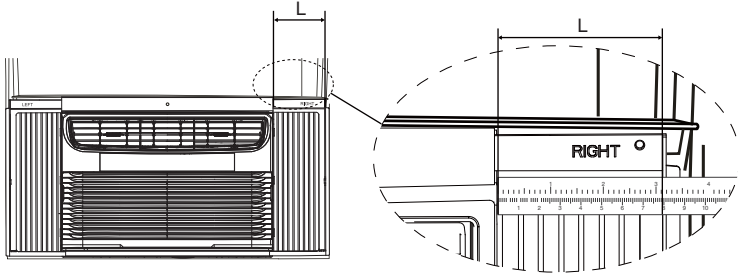
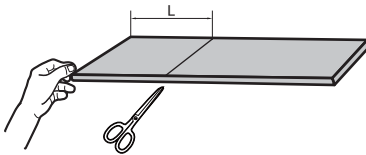
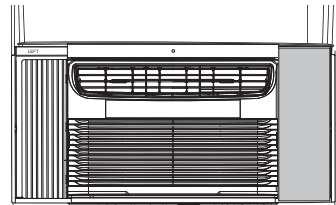

FIG. 10
FIG. 11
FIG. 12
- 7** Measure the width of the inner side curtain with the provided ruler, as shown (FIG. 10). Mark a line on the provided insulation panel according to the measured width, then cut out the insulation panel along the line, as shown (FIG.11). Peel off the protecting film behind the insulation panel and stick the panel on the side curtain, as shown (FIG.12). Repeat these instructions for the other side.